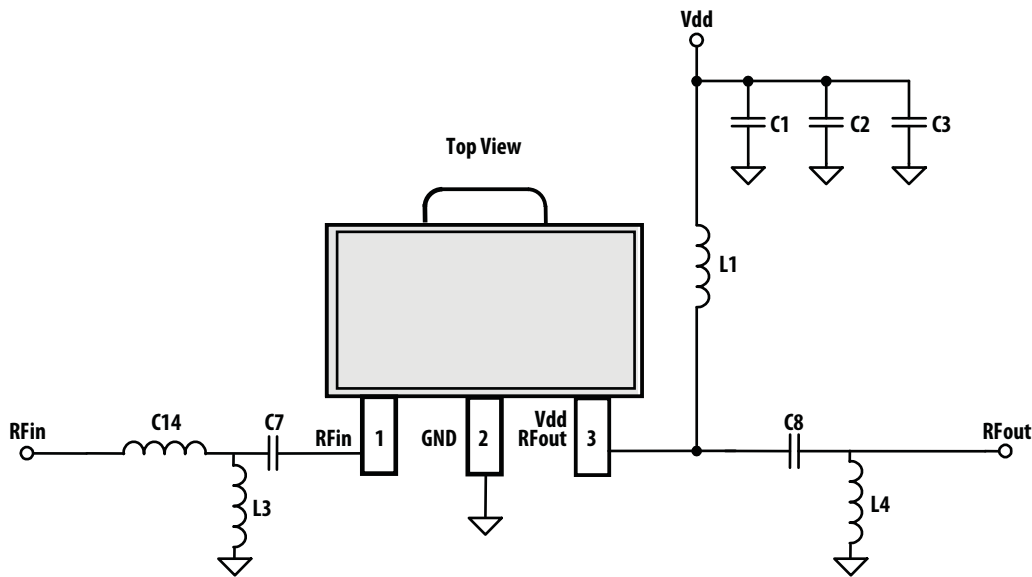

Figure 30. Application Schematic
1. Measurements obtained using demo board described in Figure 30 and 31. 3.5GHz data was taken with 3GHz - 4GHz Application Test Circuit and 5GHz data with 4GHz - 6GHz Application Test Circuit respectively.
$T_A = 25^\circ\text{C}$, $V_{dd} = 5\text{V}$, Input Signal = CW unless stated otherwise. Application Test Circuit is shown in Figure 30 and Table 1.
T_A = 25°C, V_{dd} = 5V, Input Signal = CW unless stated otherwise. Application Test Circuit is shown in Figure 30 and Table 1.
T_A = 25°C, V_{dd} = 5V, Input Signal=CW. Application Test Circuit is shown in Figure 30 and Table 2.
T_A = 25°C, V_{dd} = 5V, Input Signal=CW. Application Test Circuit is shown in Figure 30 and Table 3.